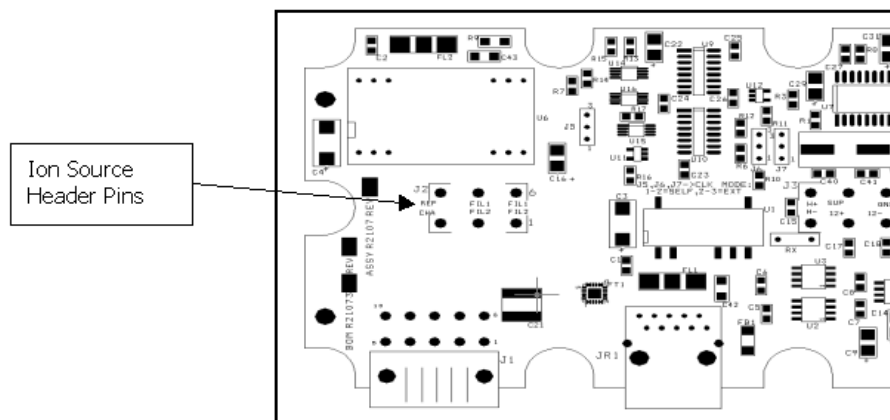

Figure 8: Ion Source Header Pin Schematic
21. On the PCB, use the resistance meter to verify an open circuit between any two of the six ion source header pins (except FIL-1 to FIL-1 and FIL-2 to FIL-2 which should be 0.3 Ohms or less). Also verify an open circuit between the body of the spectrometer and any of the ion source header pins (Figure 8: Ion Source Header Pin Schematic). If there is continuity (short circuit) at any of the points, remove the header and inspect for shorting.